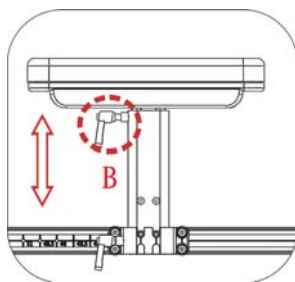

Figure 5-55
5.3.4.2.4 By releasing lever B, the height of the armrest can be adjusted and the armrest pad assembly can be removed. (Figure 5-55)